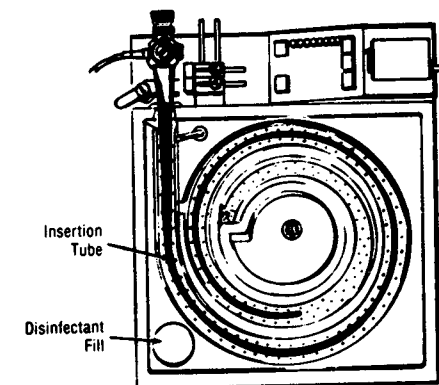
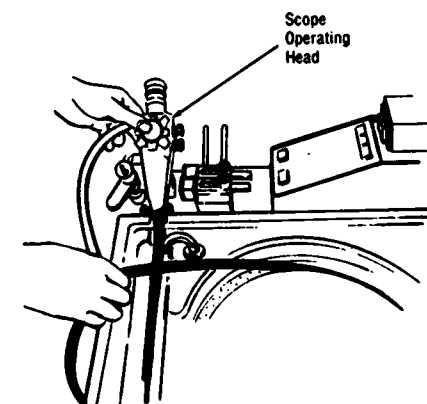

Figure 2-2. PLACE INSERTION TUBE IN POSITION.
Figure 2-3. POSITION SCOPE OPERATING HEAD.
1. Place the insertion tube in the washing tray. See Figure 2-2. Place the scope operating head in the support and secure by rotating upward the endoscope head clamp designated "1" until it is resting against the control section. See Figures 2-3 and 2-4.
6. Arrange the insertion tube in the washing tray so that the tube is in the center of the circular channel, away from the sides. This will permit uniform cleaning of all sides of the tube. See Figure 2-2.